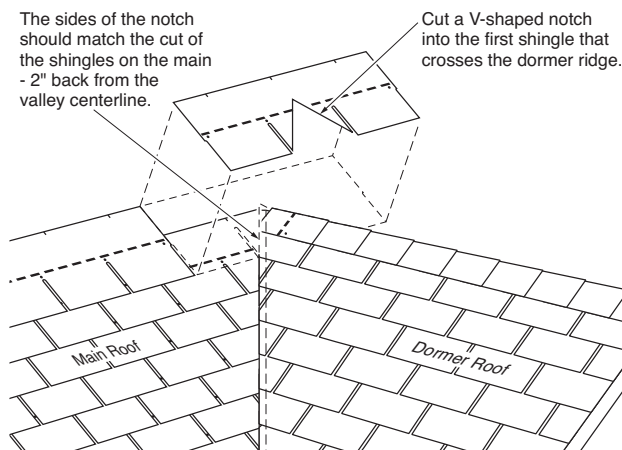

Figure 9-9: The V-notched shingle being fitted over the dormer ridge.
3. Cut into the first shingle that crosses above the ridge of the dormer a V-shaped notch that fits over the ridge of the dormer. The sides of the notch should match the cut of the shingles on the field of the roof that were cut back at the valley centerline. Cut this notch into the headlap area of the shingle. Shingles on the right side of the dormer should be applied so that course pattern and horizontal alignment conform to the position of the V-notched shingle (*Figure 9-9*).